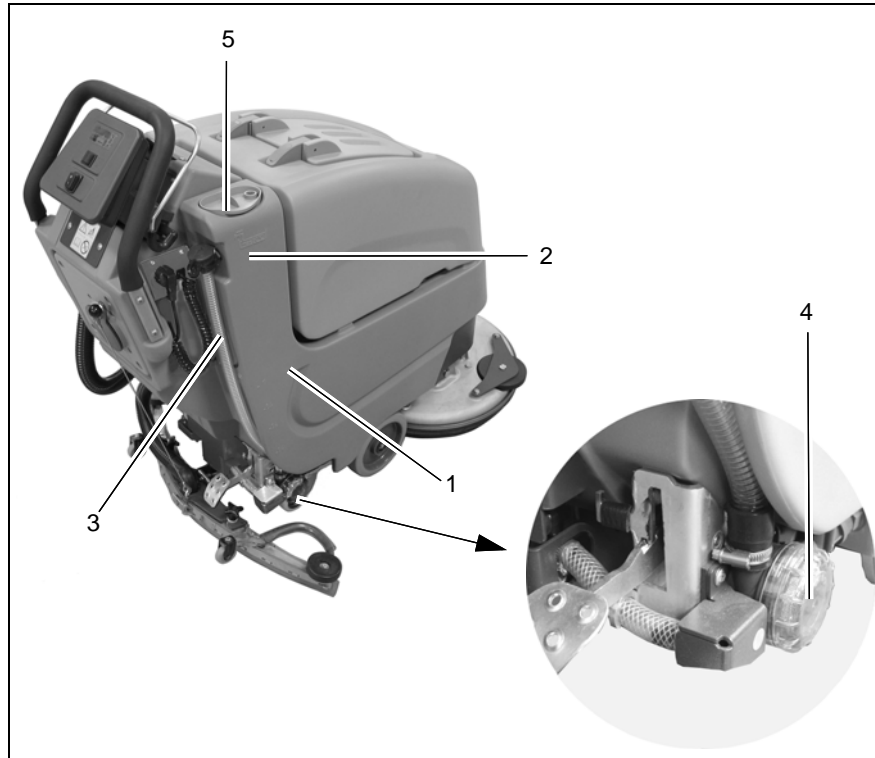

Fig.13 Scrubmaster B30
Fill the solution tank (Fig. 13/1) before starting work or as necessary. Park the vehicle on a level floor area.
Open the tank cap (Fig. 13/5) and fill the solution tank up to the maximum marking (1/1)(Fig. 13/2).
Park the machine so that the fill level hose (Fig. 13/3) is above a drain in the floor. Remove the fill level hose from the holder and remove the cover.
Check the solution filter (Fig. 13/4) weekly and clean or replace it as necessary.
1. Empty the solution tank (Fig. 13/1), see paragraph 5.5.2.